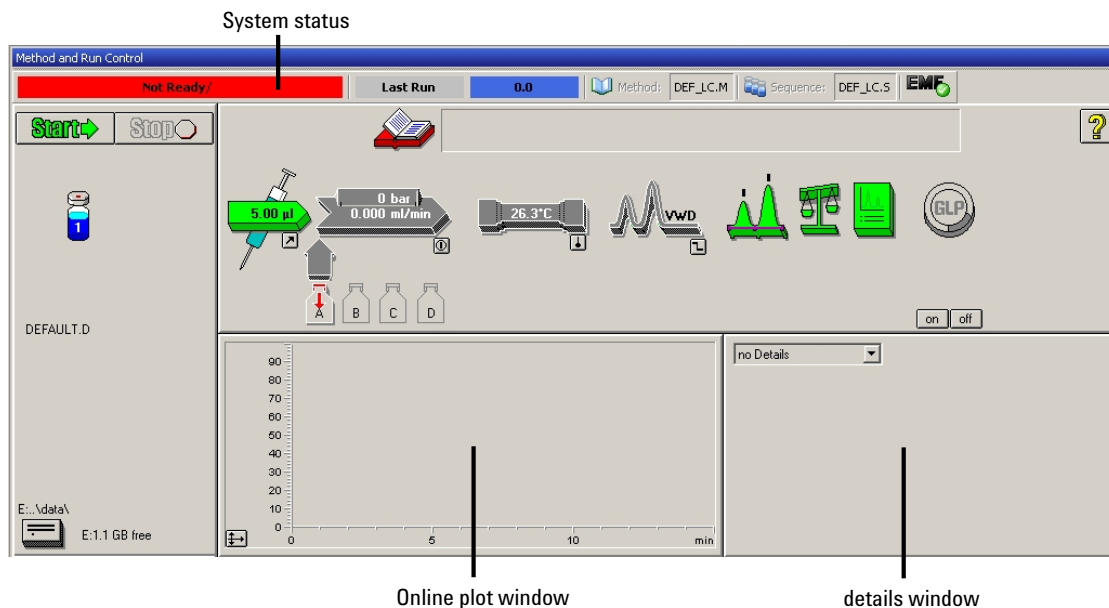

Figure 11 Initial Agilent ChemStation screen (**Method and Run Control**)
- 3 Start the Agilent ChemStation software. If the pump, autosampler, thermostatted column compartment and detector are found, the Agilent ChemStation screen should look like shown in Figure 11 on page 51. The System status is red (**Not Ready**).